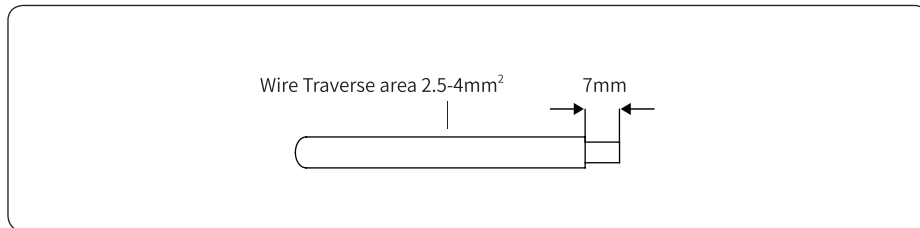

Figure 4-9
2) Peel off the DC cable insulation sleeve for 7 mm, as shown in Figure 4-9: